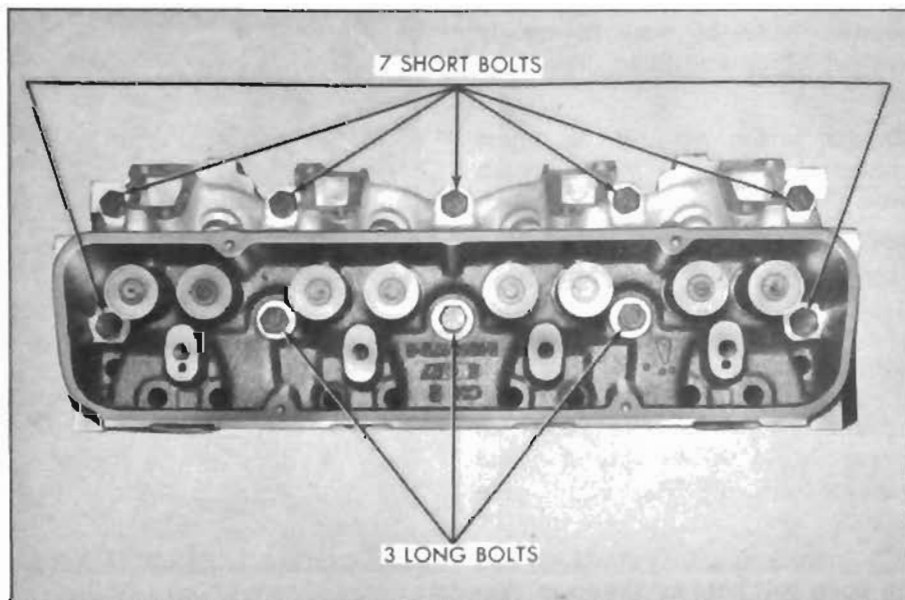

Figure 2-60—Cylinder Head Bolt Installation
5. Clean and lubricate the head bolts with "Perfect Seal" sealing compound. Install bolts as shown in Figure 2-60.